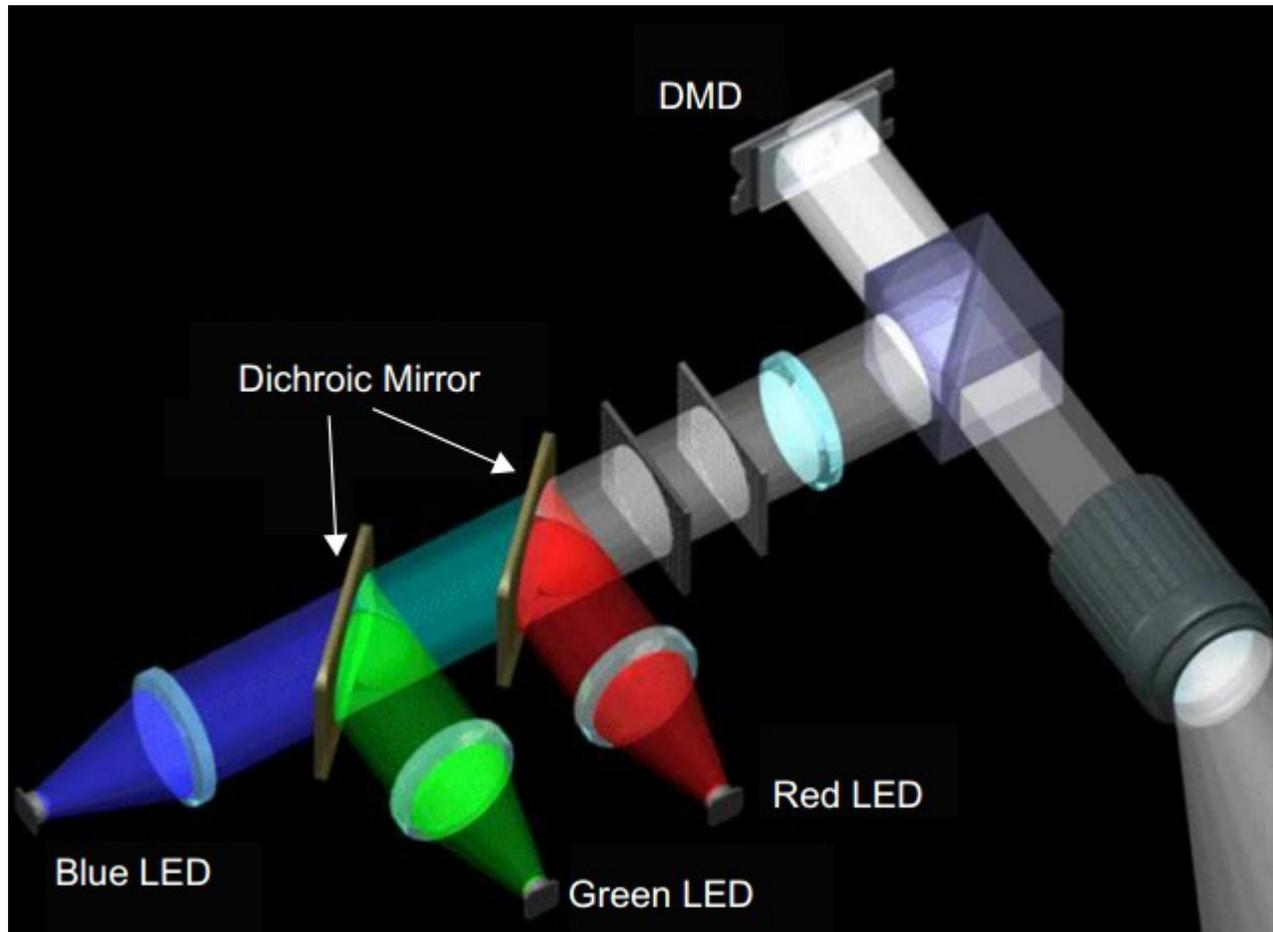

Figure 1. Optical layout of LED projector utilizing TI DLP display technology
These projectors usually weigh much less than traditional ones, and their response time is almost instant. They require no warm up or cool down time. Also, these portable projectors usually run on batteries, which are direct current (DC) in nature. How do modern projectors work, and why are they so compelling to use? As shown in Figure 1, the LED is a diode that emits light; it provides a certain wavelength (color) when driven by a certain amount of electrical current. The higher the electrical current driven into the LED's operable range, the higher the brightness that the diode can produce. The color of the diode also depends on the accuracy of the electrical current driven into it. The electrical current level for LEDs in portable projectors usually ranges from 1 A to 2.5 A.